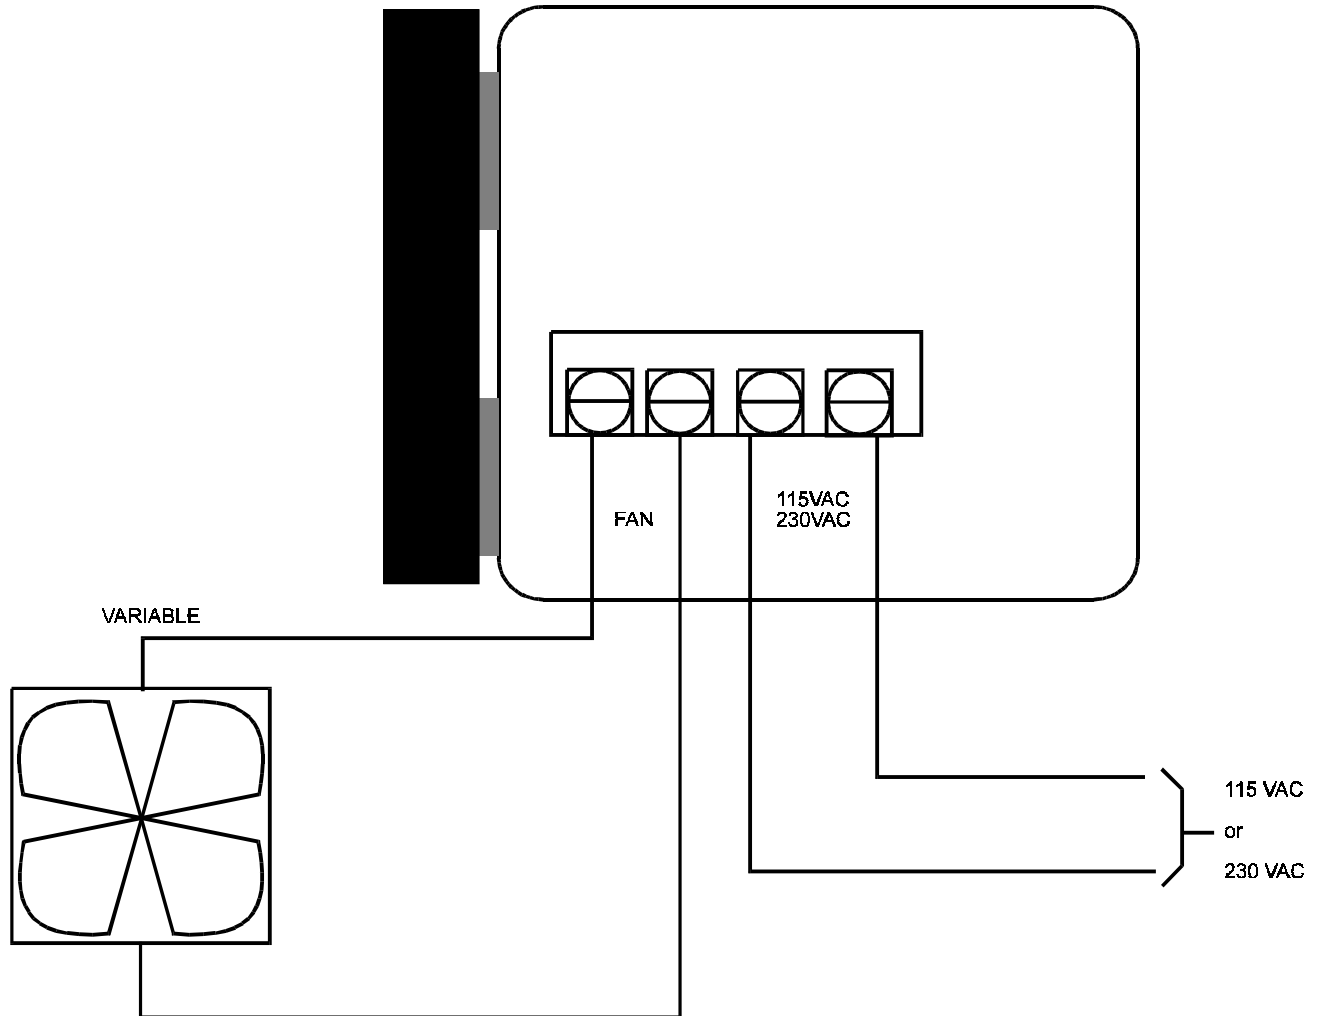

Figure 5 : Typical hook-up for the ST2100 controller
- For typical hook-up, refer to figure 5.